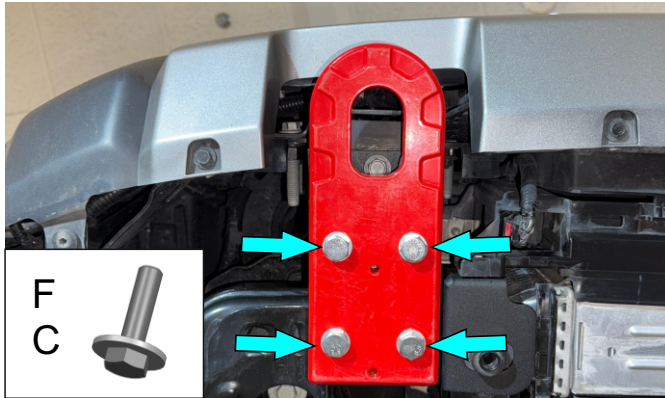

Fig. 6
6. Secure recovery points (item 2) to the previously installed brackets using M12x50 bolts and M12 washers (items C, F) on both sides of the vehicle as shown in Fig. 6.